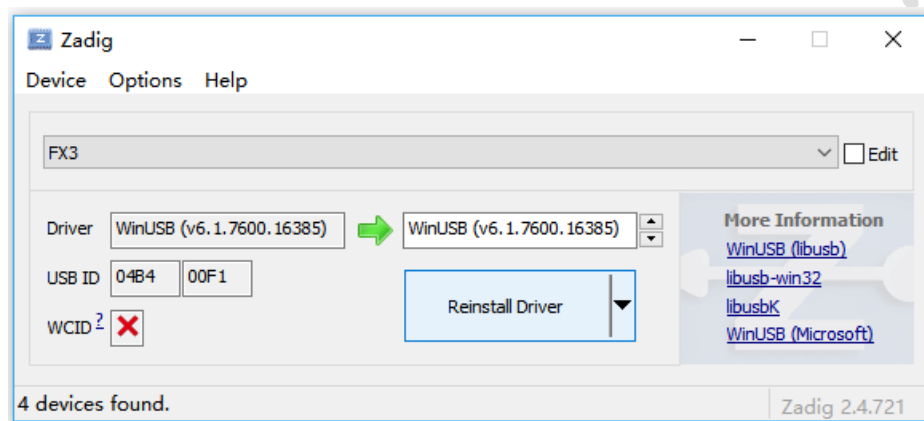

Fig. 1-4
- (3) Click “**Install Driver**” or “**Reinstall Driver**” (Fig. 1-4) to install the driver. After the installation is successful, Figure 1-5 will be shown.